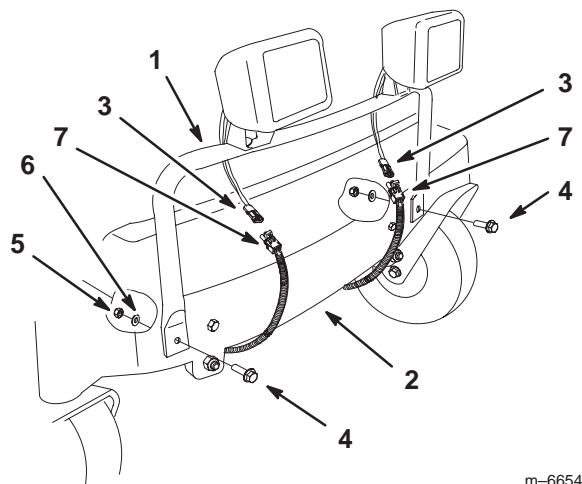

Figure 3
4. Locate the hole on the right side of the machine by measuring 3 inches (76 mm) over and 1-1/2 inches (38 mm) up as shown in Figure 3.
1. Remove the two bolts, washers, and locknuts that are on the front of the machine and farthest to the outside (Fig. 3).
2. Attach the light bracket to the front of the mower with the bolts, washers, and nuts removed in step 1 (Fig. 3).
2. Connect the two head light connectors to the wire harness (Fig. 3).